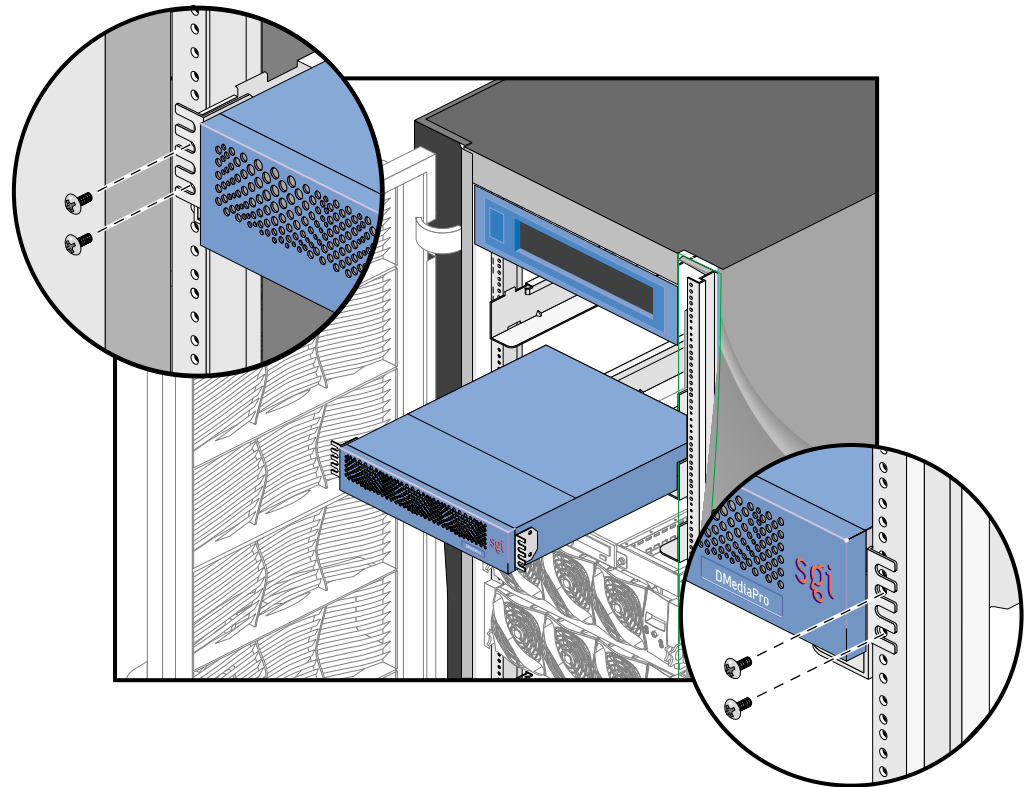

Figure 2-2 Installing the VBOB in the Rack
5. Attach the VBOB to the rack, as shown in Figure 2-2, using M5 screws for the rack.